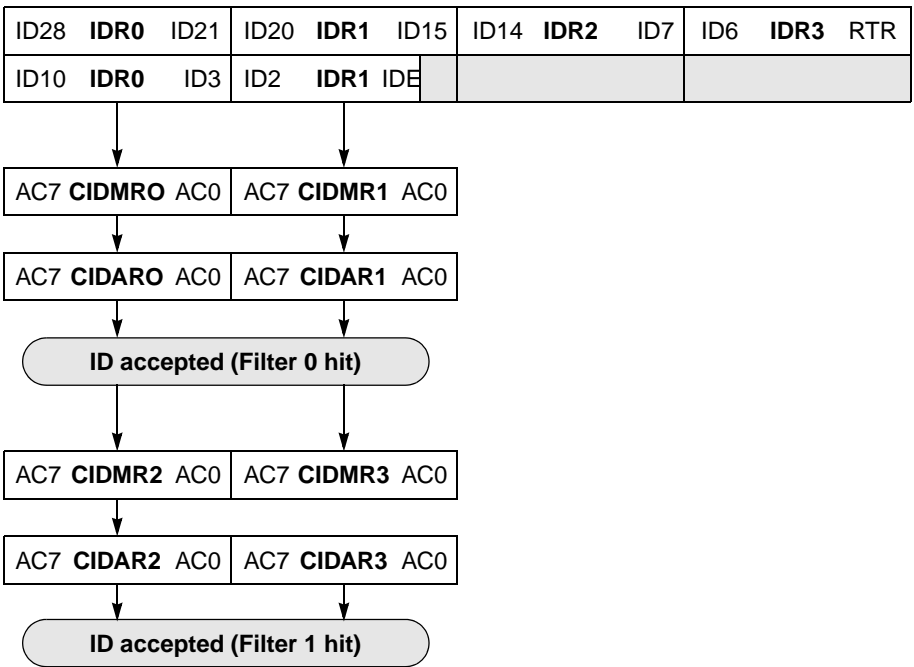

Figure 17-4. 16-bit Maskable Acceptance Filters
- Four identifier acceptance filters, each to be applied to a) the 14 most significant bits of the extended identifier plus the SRR and IDE bits of CAN 2.0B messages or b) the 11 bits of the standard identifier, the RTR and IDE bits of CAN 2.0A/B messages. Figure 17-4 shows how the first 32-bit filter bank (CIDAR0–3, CIDMR0–3) produces filter 0 and 1 hits. Similarly, the second filter bank (CIDAR4–7, CIDMR4–7) produces filter 2 and 3 hits.